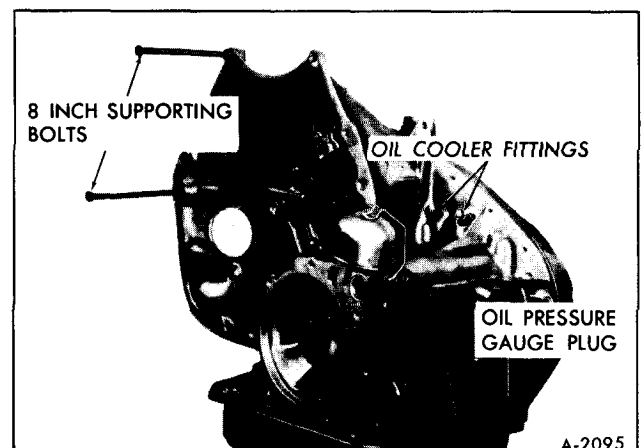

Figure 30—Transmission Support Bolts
1. Install two 3/8 x 8 bolts with nuts into the case to engine mounting face. (figure 30)